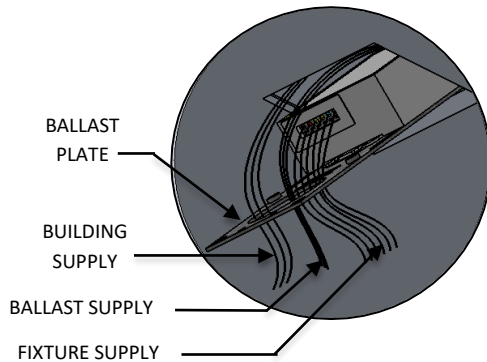

FIG. 20- DETAIL SHOWING BUILDING SUPPLY AND DRIVER WIRE
17. Slide DRIVER PLATE into the box with the DRIVER facing up.as you slide the plate in, make sure you pull the BUILDING SUPPLY connections through the large hole in the DRIVER PLATE as shown below in FIG. 20 and other wires will already be through the center hole.